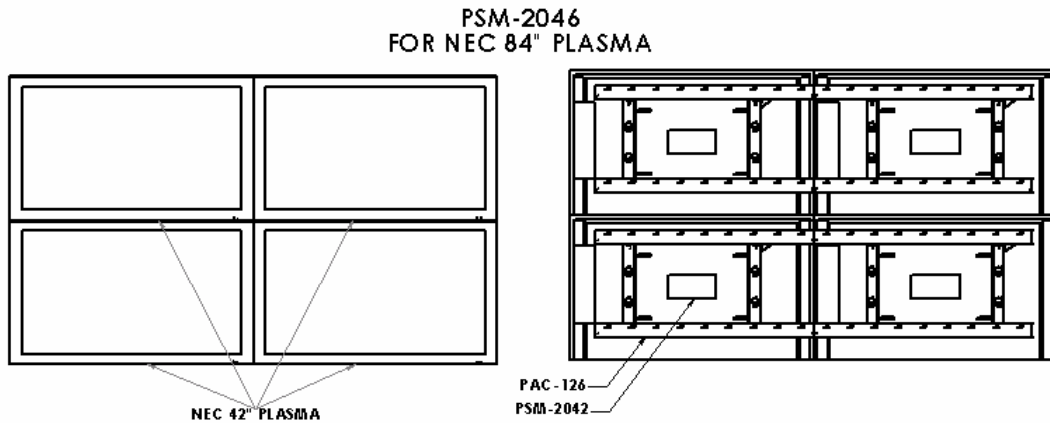

Figure 11
- Slide displays together to form 84" diagonal array (see Figure 11).